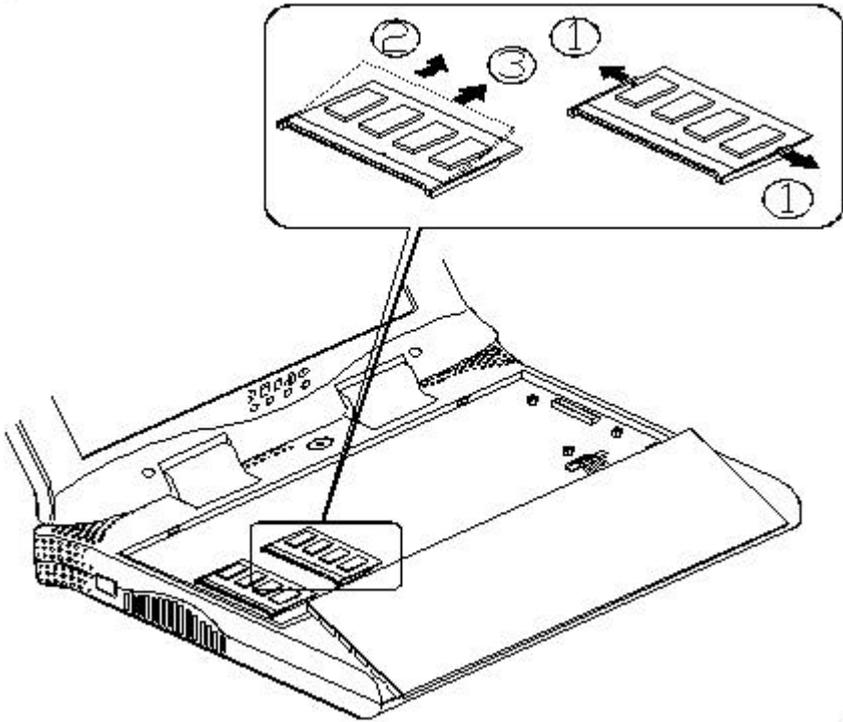

Figure 2-9
- Gently pull the two latches on both ends of the module outward. The module will pop up (Figure 2-9).